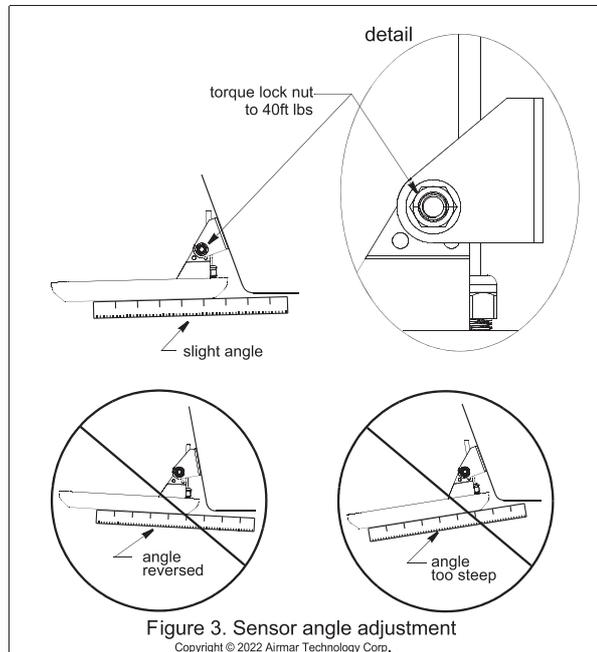

Figure 3. Sensor angle adjustment
2. With the transducer in the operational position, use a straight edge to sight the underside of the transducer relative to the underside of the hull (Figure 3). The trailing edge of the transducer should be 1–6mm (1/16–1/4") below the leading edge. When you are satisfied with the position of the transducer, use a torque wrench to tighten the lock nut to 40ft lbs.
- a. Increase the sensor's angle in the water. Review "Checking the Sensor Angle & Projection:" and see Figure 3.